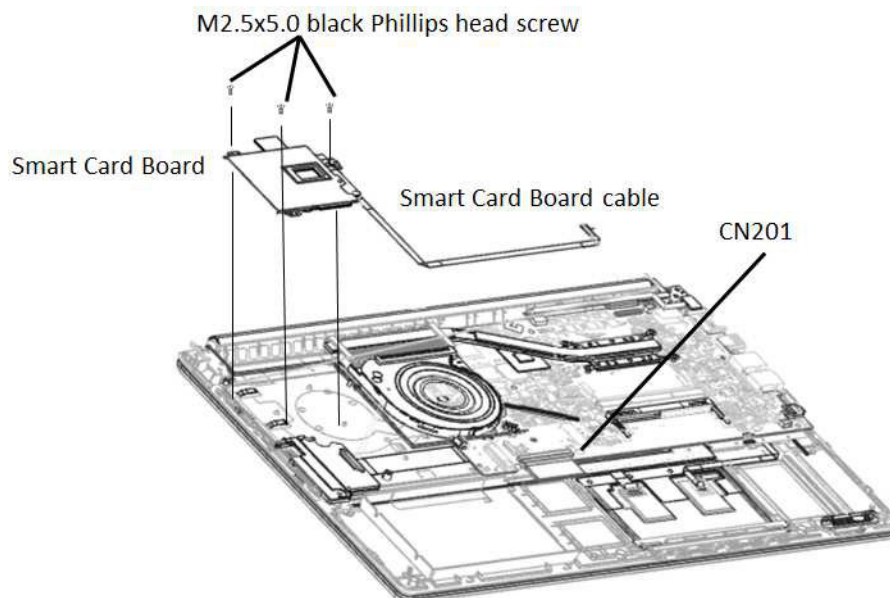

Figure 4-9 Removing Smart Card Board
Remove Smart Card Board according to the following procedures and Figure 4-9 and 4-10.
Install Smart Card Board according to the following procedures and Figure 4-9 and 4-10.
4. Place Smart Card Board in the correct position according to Figures 4-9 & 4-10.